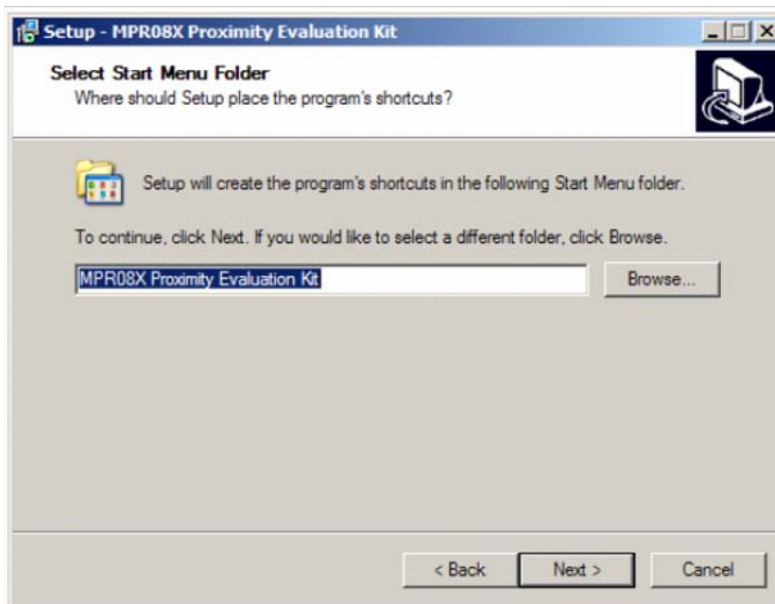

Figure 4. Start Menu Folder
4. In the Select Start Menu Folder, the user must specify the name that will appear in the Start Menu folder. The default name in the MPR08X Proximity Evaluation Kit (Figure 4).